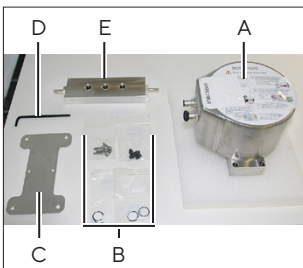

Fig. 4b: Preparing the assembling (B) Spare kit 2: SB-20-02-0001, Spare part kit for BioPAT® Xgas
For the assembling you will need (fig. 4b):
► Now place the 4 TORX screws M4x16 (fig. 4b: E) in the bores of the BioPAT® Xgas without screwing. This will make it easier to place the BioPAT® Xgas on the right spot on the flow adapter (fig. 4i).
► Put the wall mounting plate on the flow adapter and use the two flat head screws M4x6 (fig. 4b: E) to fix the base plate to the sensor (fig. 4k).